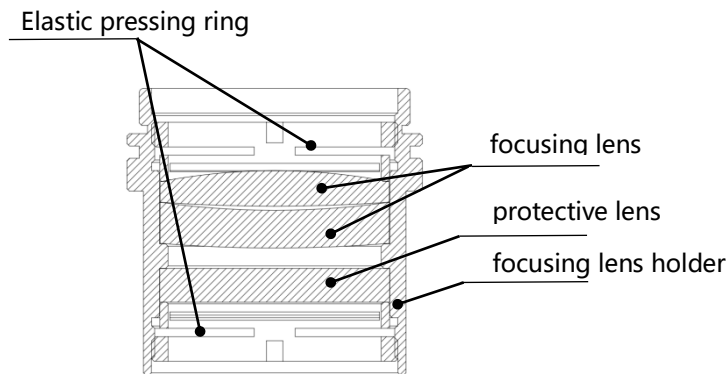

Figure 6.9 - Installation diagram of focusing lens
- As the direction shown in figure 6.9, put the focusing lens and the spring pressing ring in the